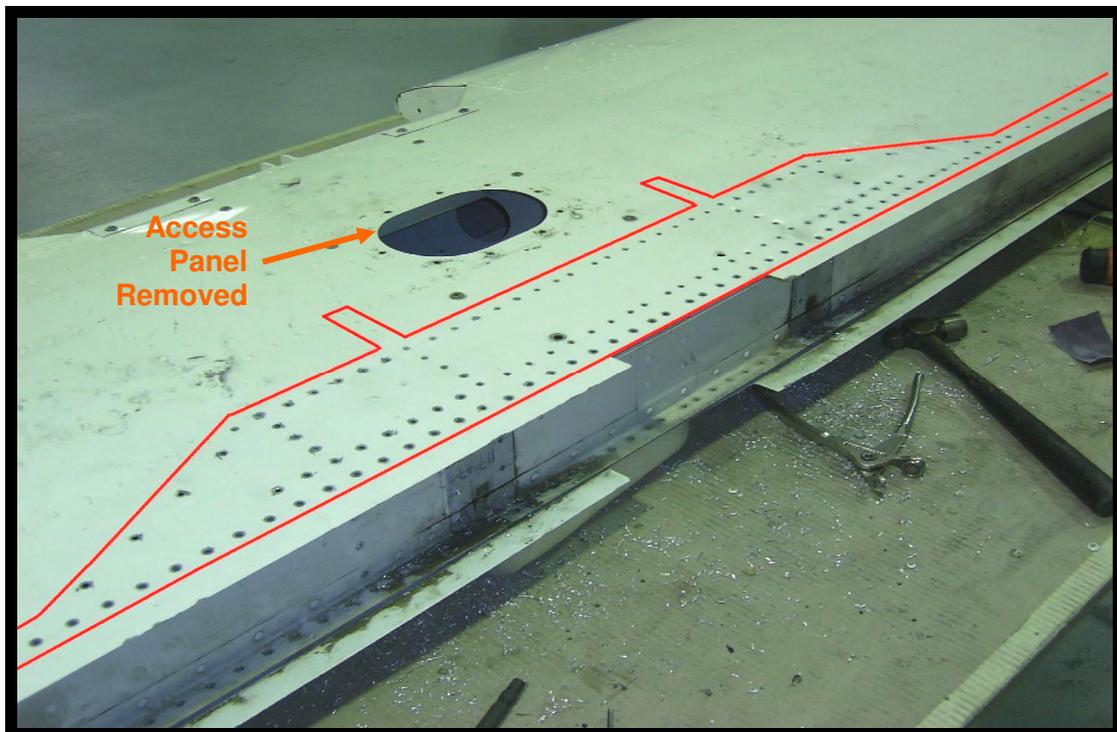

Figure 1
- 3.1. Remove the rivets along the rear spar line and skin doubler from the upper and lower skins full span as outlined in Figure 1.
4.1. Remove the remaining upper and lower rivets in the aft section of the inboard ribs (if not already removed). See Figure 1.